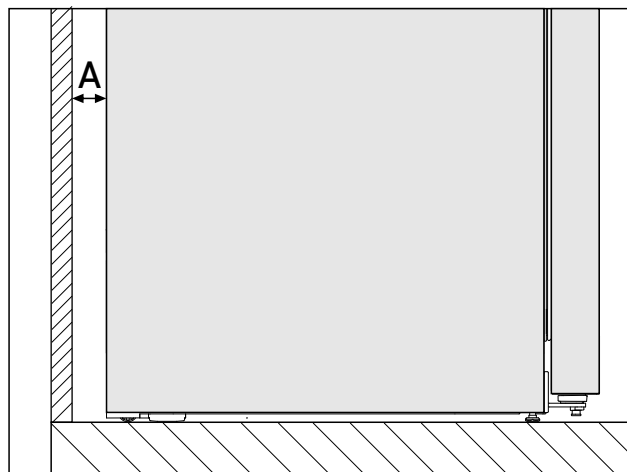

Fig. 3 *
The energy consumption has been determined with a gap of Fig. 3 (A) between the rear of the appliance and the wall. If the distance from the wall is less than Fig. 3 (A), this will not affect the appliance's performance. If the distance from the wall is reduced, energy consumption may increase slightly and condensation may form on the rear panel of the appliance.^{*}